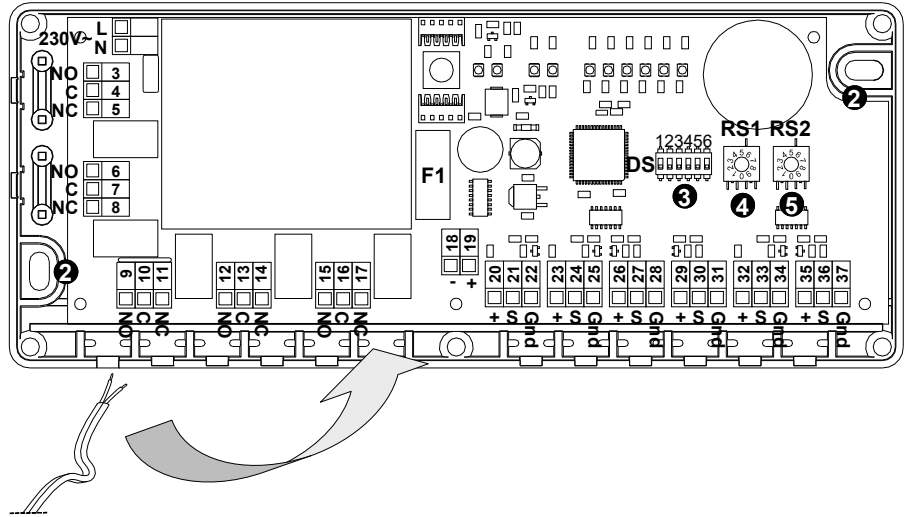

Fig. 2: Disposition of the internal elements and connections terminals of the control unit.
- The electronic circuit is protected by a 1A quick blow fuse, shown in Fig. 2 with F1.